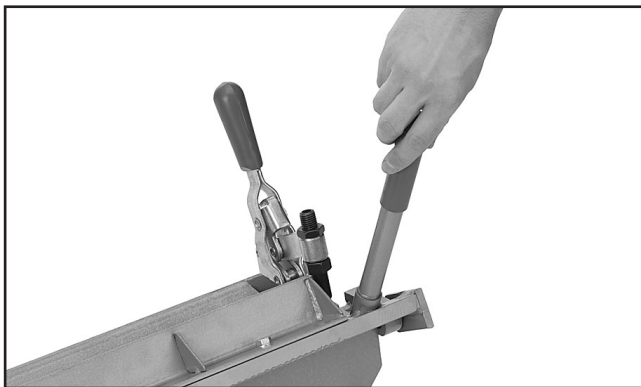

Figure 5. Breaker bar lever installation.
4. Screw the two breaker bar levers into the breaker bar holes, as shown in **Figure 5**.